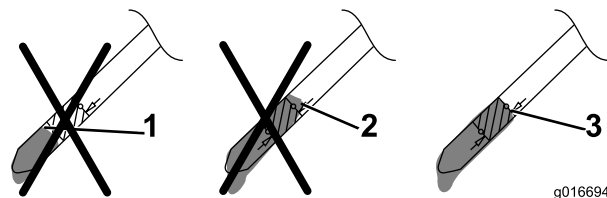

Figure 13
5. Remove the dipstick and read the oil level; refer to Figure 13.